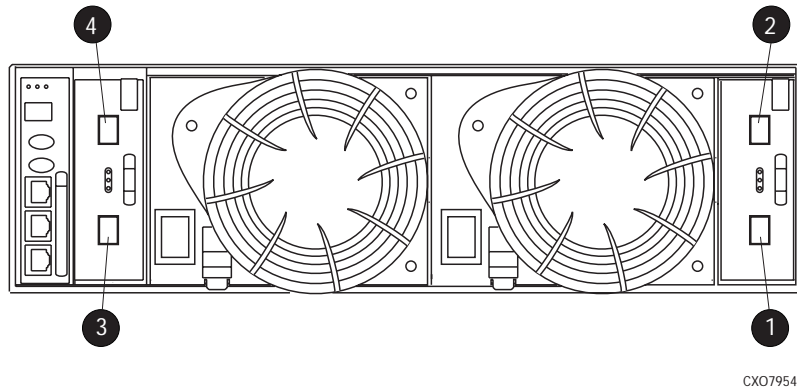

Figure 59 Transceiver element numbering
- *en.* is the two-character transceiver element number (see Figure 59)